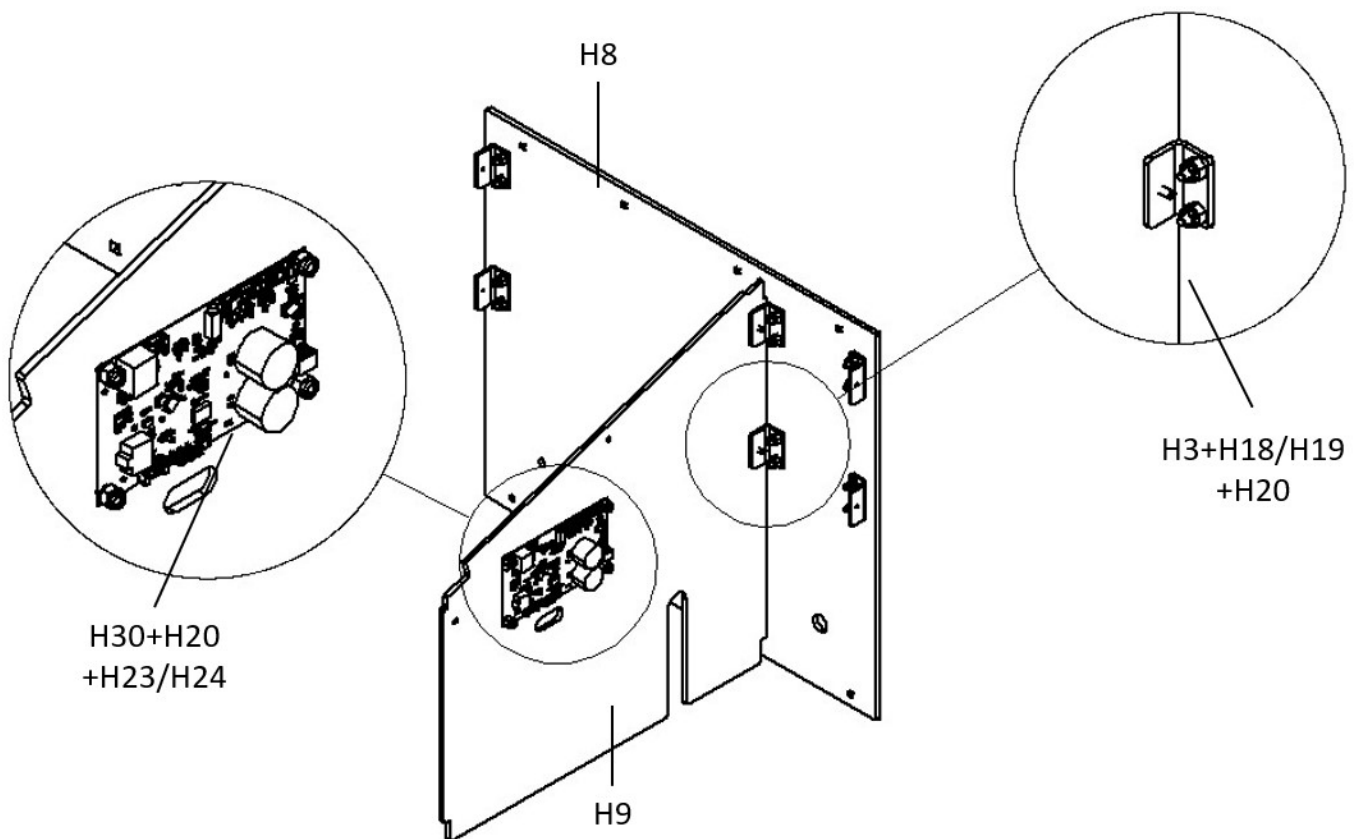

Figure 12: Overview of the Back Plate Assembly
1. Orientate the H8 Back Plate as illustrated in figure 12.
2. Position the 6x H3 Connectors onto the plate. Make sure their orientation resembles figure 12. Fasten the connectors with 12x H18 carriage bolts and H19 nuts.
3. Position the H9 Internal Wall perpendicular to the Back Plate and fasten it with 2x H20 hex bolts as can be seen in the detailed view of figure 12.